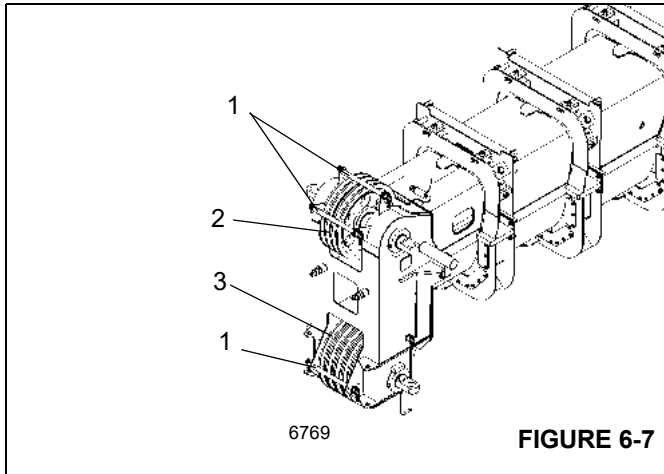

FIGURE 6-7
Refer to (Figure 6-7).
1. Remove the retaining rods (1), (Figure 6-7).
2. Guide the rope over the upper boom nose sheaves (2).
3. Guide the rope over the lower boom nose sheave (3).
2. Remove the retaining rods (1), (Figure 6-7).
3. Take the wire rope off the upper boom nose sheave (2) and place it on the ground on the left side.